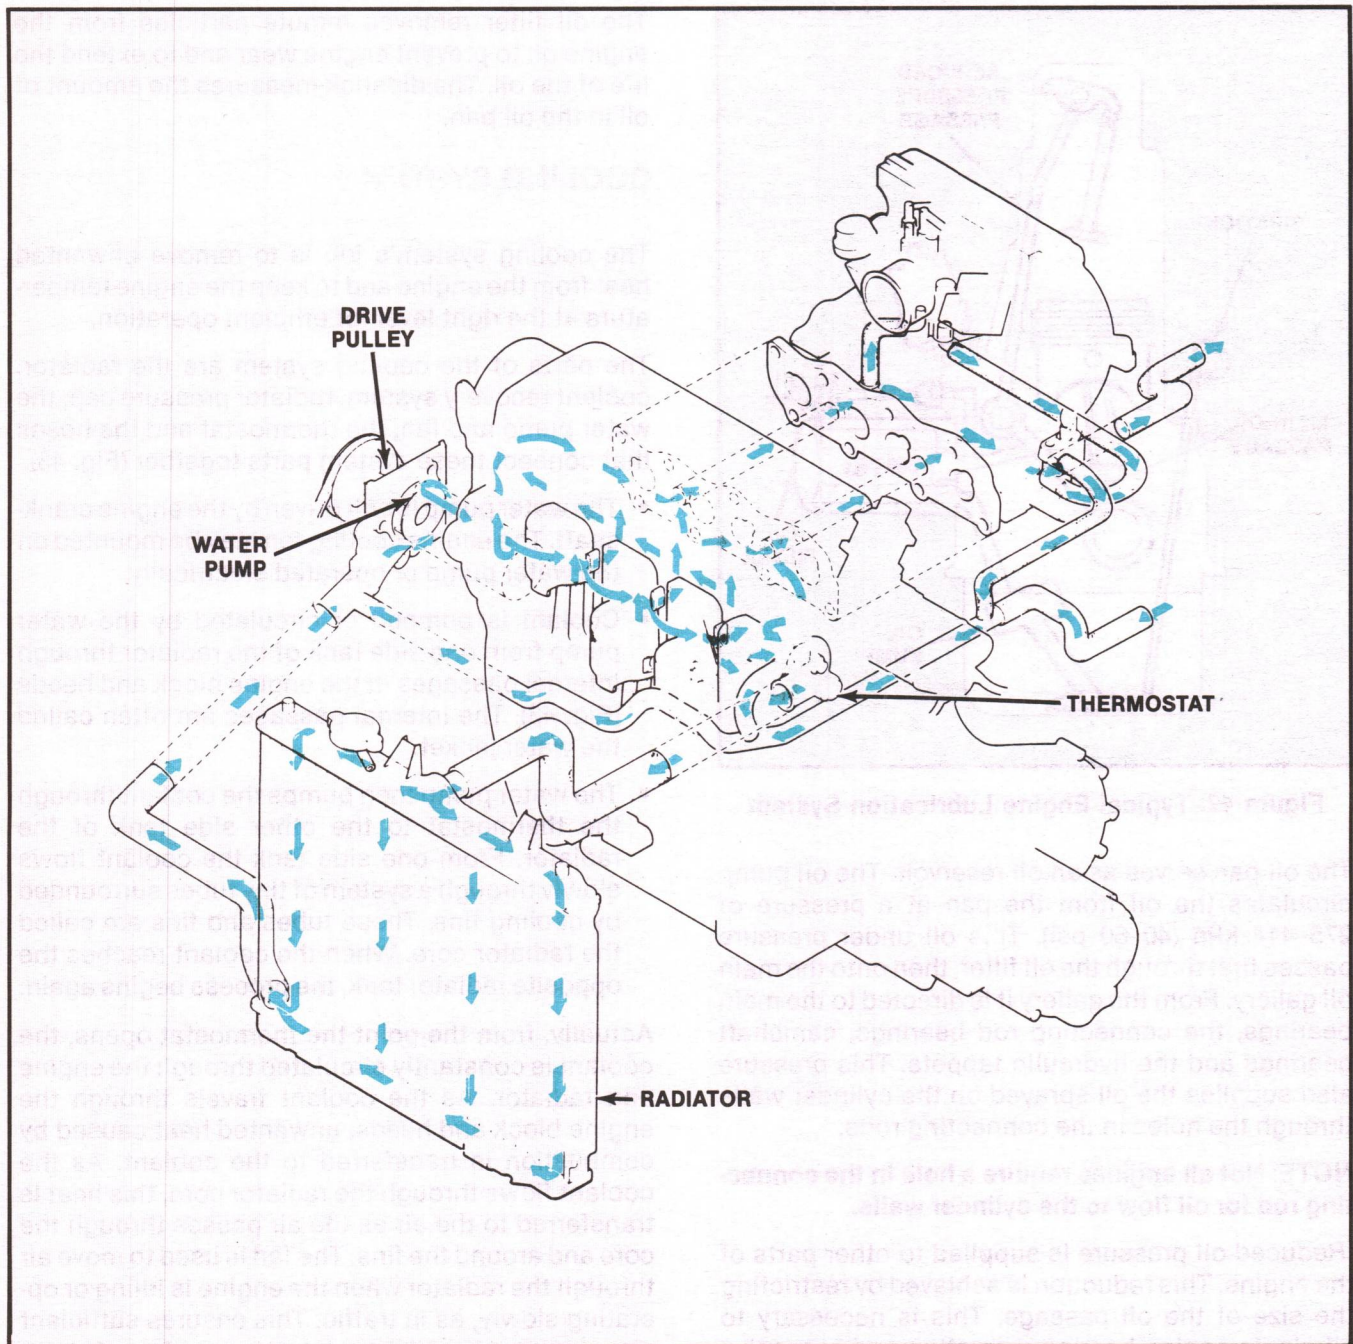

Figure 43. Typical Engine Cooling System
The parts of the cooling system are the radiator, coolant recovery system, radiator pressure cap, the water pump and fan, the thermostat and the hoses that connect these system parts together (Fig. 43).
- Coolant is pumped or circulated by the water pump from one side tank of the radiator through internal passages in the engine block and heads (Fig. 43). The internal passages are often called the water jacket.